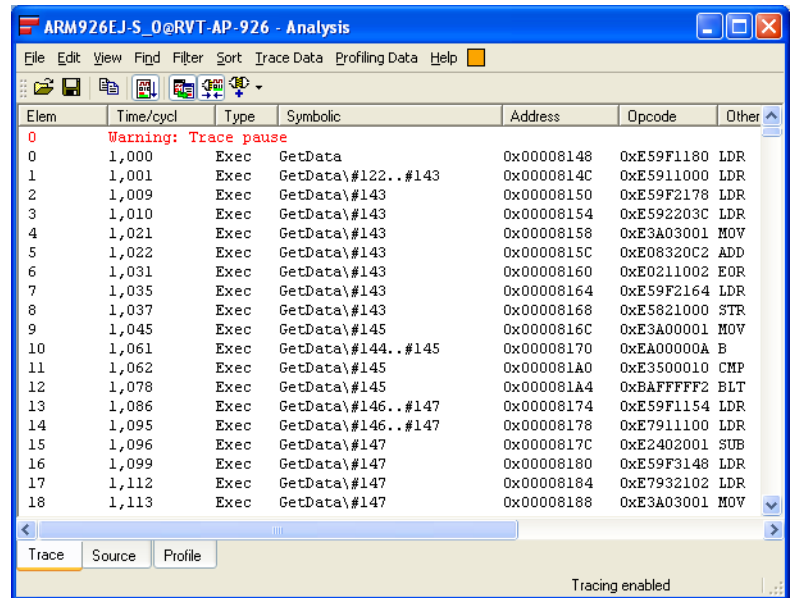

Figure 10-18 Captured trace
7. After a short time, click **Stop** on the Debug toolbar to stop execution. The captured trace is displayed in the **Trace** tab of the Analysis window. Figure 10-18 shows an example: